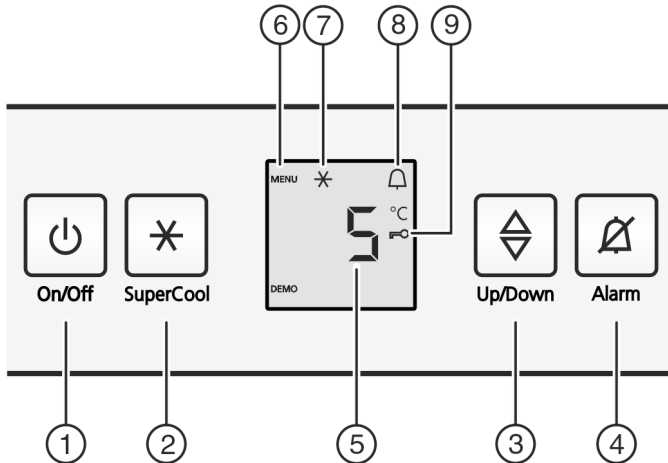

Fig. 2
- ▶ Press the On/Off button Fig. 2 (1).
- ▶ Press the SuperCool button Fig. 2 (2) for about 5 seconds.
- ▷ The Menu symbol is shown on the display, Fig. 2 (6).
- ▶ Confirm briefly with the SuperCool button Fig. 2 (2).
- ▷ The child lock symbol, Fig. 2 (9), lights up on the display.
- ▶ Briefly press the On/Off button Fig. 2 (1).
- ▶ Press alarm button Fig. 2 (4).
- ▶ Call up temperature function: press the setting button *Fig. 2 (3)*.
- ▶ Change the temperature in 1 °C steps: Press the setting button *Fig. 2 (3)* until the required temperature is indicated in the temperature display.
- ▶ Briefly press SuperCool button *Fig. 2 (2)*.
- ▷ The SuperCool *Fig. 2 (7)* symbol lights up in the display.